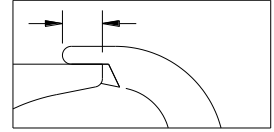

Fig. 4
- > Keeper extends into the bill, 3/16" min. (Fig. 4)